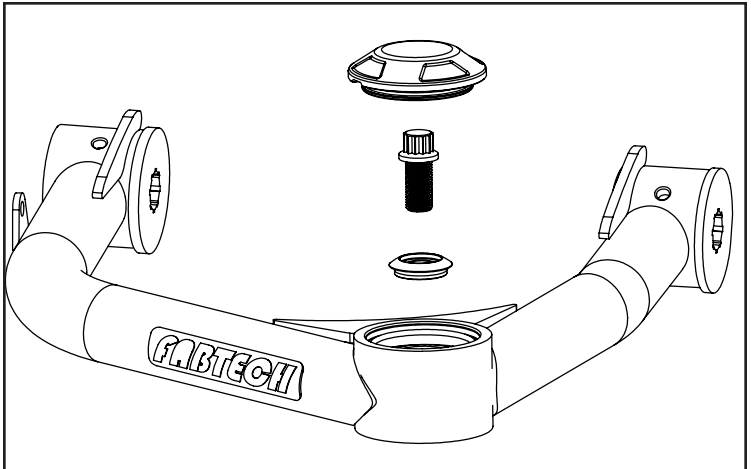

**FIGURE 6 - STEP 9**
9. Install the FT20929 (Driver) & FT20930 (Pass) upper control arms using the factory hardware. Install the bolts with the bolt head inside the tower and the threaded end outside. Using thread locker torque 160 ft-lbs. **SEE FIGURE 6**